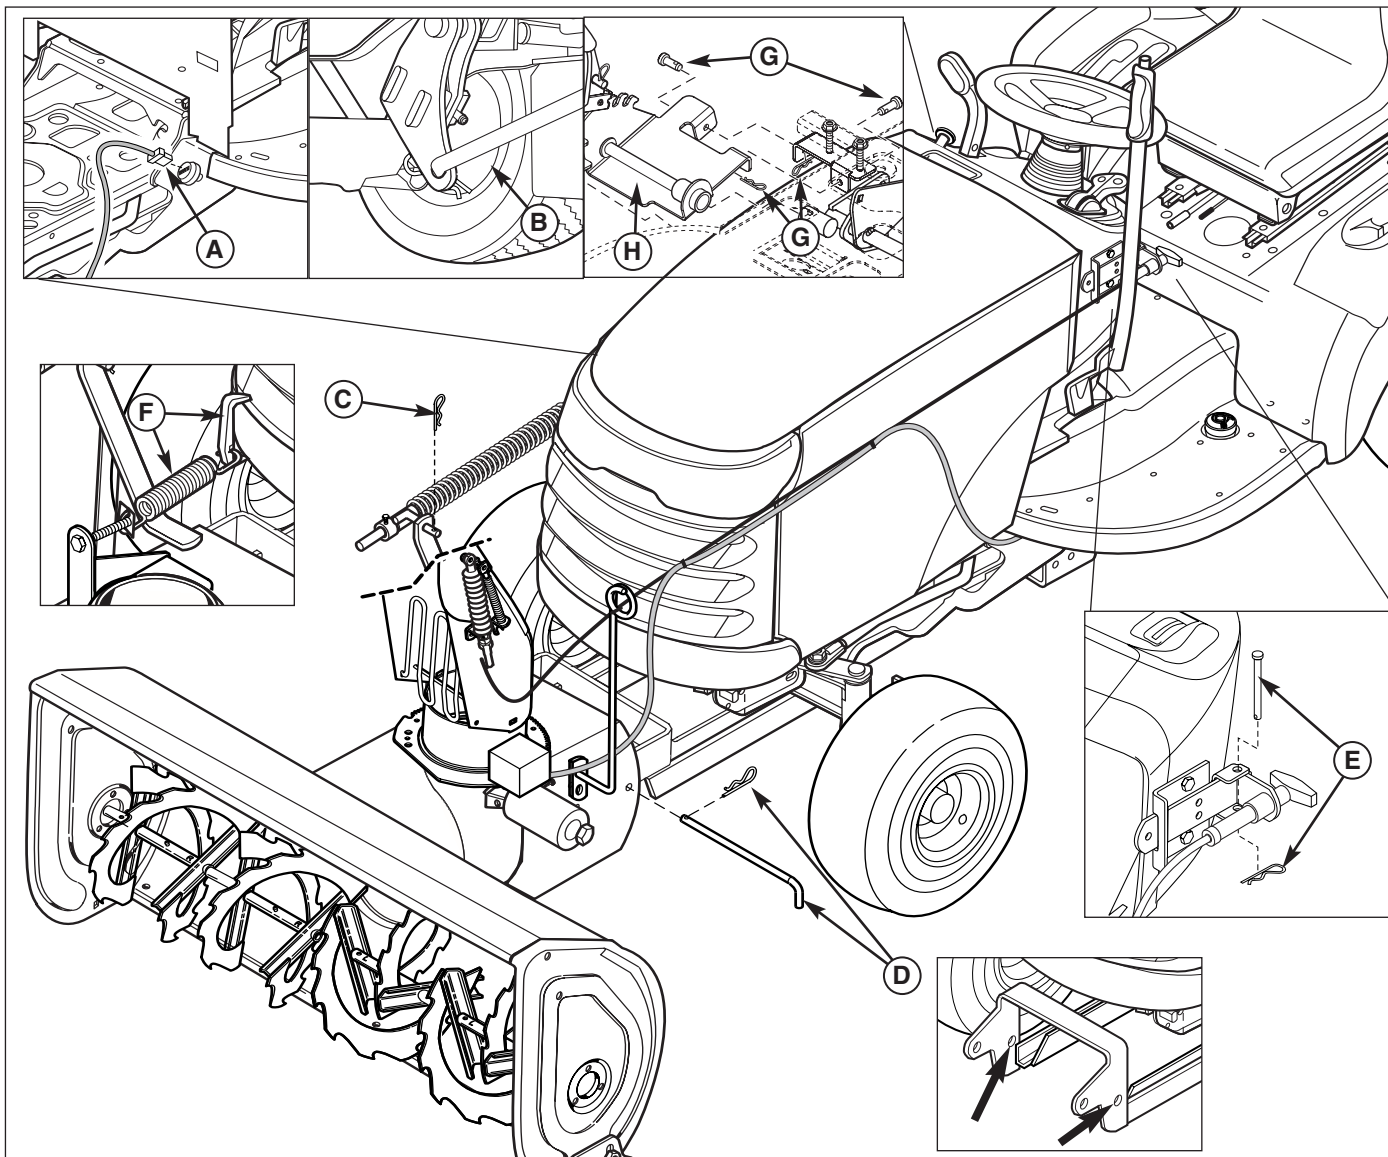
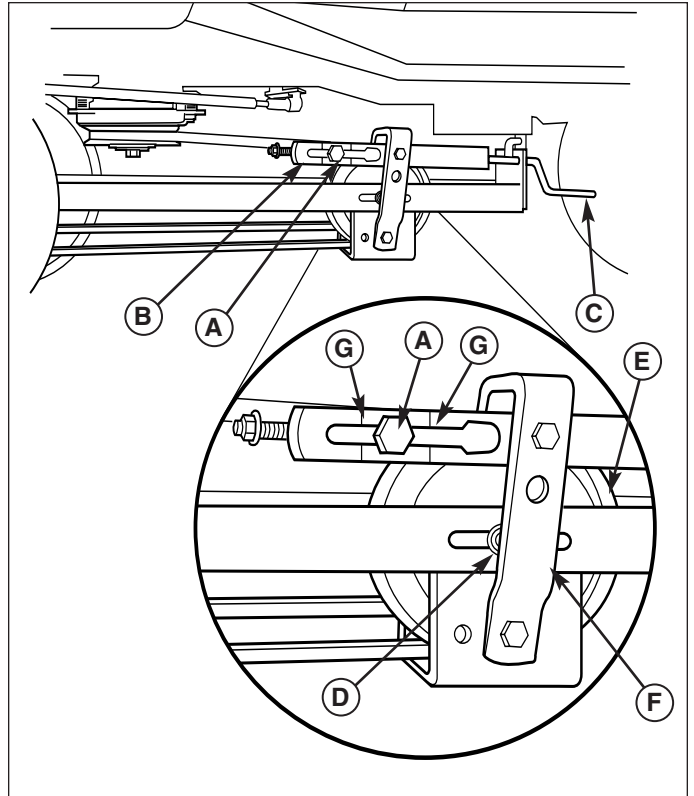
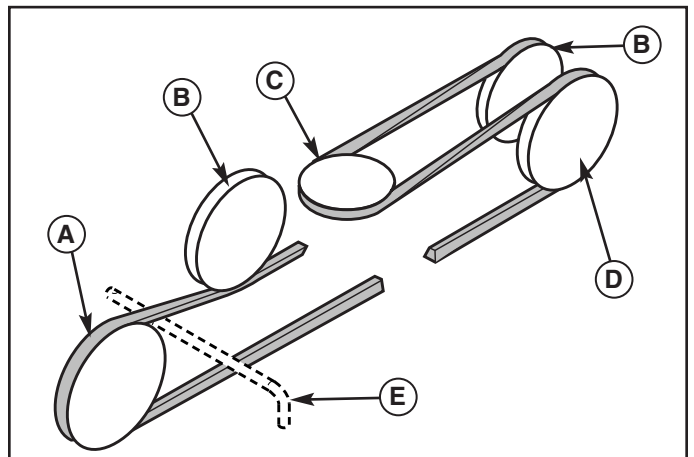

Figure 33. Removal
Figure 34. Adjusting Belt Tension
Figure 35. Belt Routing
2. **Manual Lift Models:** Release and remove the lift assist spring and anchor (F, Figure 33).
4. Remove the clevis pin and clip (E) from the remote deflector control and disconnect the control from the mounting bracket.
5. Disconnect the rotator motor plug (A).
6. Disconnect the rear of the lift rod (B) from the lift arm extension. Remove the hair pin clip (C) from the front of the lift rod. Remove the lift rod. Remove the lift arm extension from the tractor (see Hitch Installation Instructions).
7. Use the trunnion handle (C, Figure 34) to relieve belt tension. Remove the belt from the snowthrower drive pulley (A, Figure 35).
8. Remove the hitch pin and clip (D, Figure 33) from the snowthrower and remove the snowthrower. Reinstall all pins and clips to prevent loss.
9. Remove the clevis pin and hair pin (G, Figure 33 RH manual lift models) frame mounted bracket. Reinstall all pins and clips to prevent loss.
2. Place the snowthrower in front of the tractor and secure to the hitch using the hitch pin and clip (D, Figure 33).
3. Route the drive belt as shown in Figure 35. Note that the back of the belt rides in the back-side idler (B). Note that the pin (E) goes between the belt.
4. With the snowthrower drive belt installed, trunnion (A, Figure 34) should be between the marks (G) on spring tension bracket (B) for correct belt tension. Turn belt tension handle (C) to move trunnion forward or rearward until between marks.
5. Connect the rear of the lift rod (B, Figure 33) to the lift arm extension. Use a hair pin clip (C) to secure the front of the lift rod to the snowthrower.
6. Connect the rotator motor plug (A). Route the harness along the deflector control cable as shown.
7. Install the remote chute deflector control to the mounting plate and secure with a clevis pin and clip (E, Figure 33).
8. Fully raise and support the snowthrower with wood blocks. **Manual Lift Models:** Install the lift assist spring and anchor (F, Figure 33).
9. Install lift lever assembly (H, Figure 33 RH lift lever models) and secure with clevis pins and hair pins (G).